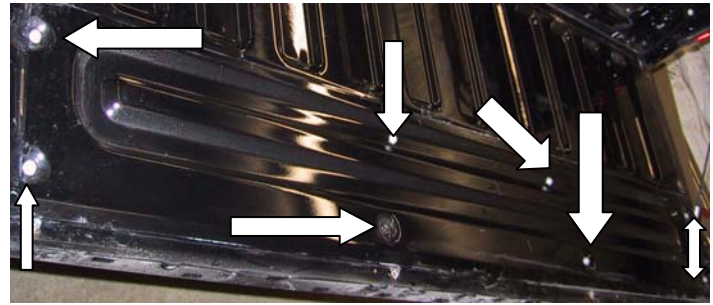
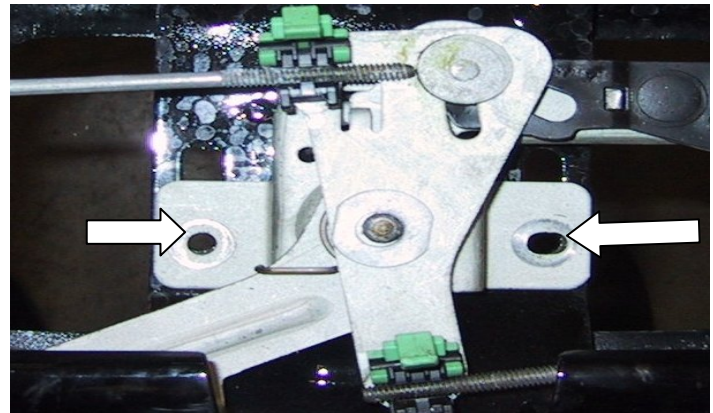

Fig. B-1
Fig. B-2
- ➔ **STEP 1:** Locate the ten (8) Torx head screws on the interior panel of the tailgate. (see fig. B-1)
- ➔ **STEP 2:** Remove the ten (8) Torx head screws using a T30 Torx head driver. Remove the access panel and set it to the side. You will now have access to the inside of the tailgate.
- ➔ **STEP 3:** Remove the two (2) 10mm retaining nuts from the studs of the factory tailgate handle using a 10 mm socket and ratchet. (see fig. B-2)